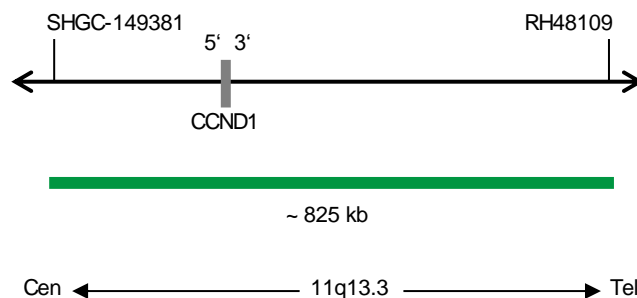

Fig. 1: SPEC CCND1 Probe map (not to scale)
- ZyGreen (excitation 503 nm/emission 528 nm) labeled polynucleotides (~10 ng/ μ l), which target sequences mapping in 11q13.3* (chr11:69,203,885-70,031,240) harboring the CCND1 gene region (see Fig. 1).